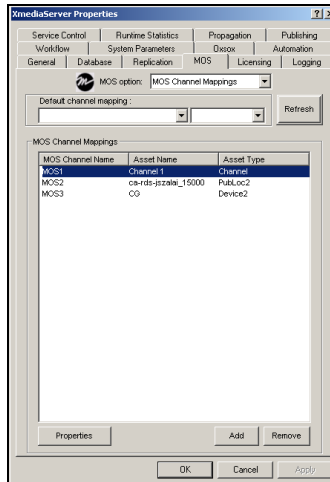

Figure 7-15. Select MOS channel association's MOS Channel Name
2. Select the MOS Channel Name of the MOS Channel association that is to be edited (figure 7-15).